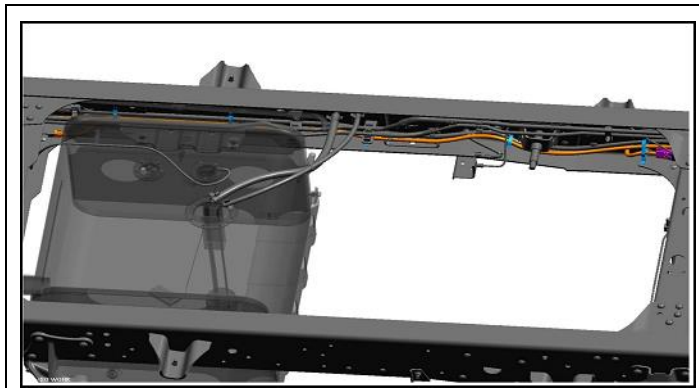

Figure 38
1. From the PTO connector, route the rear section of the DFT harness adjacent to the chassis harness in the frame rail inside of the fuel lines, under the brake lines and then upwards to the fuel sender. (See Figure 38.)